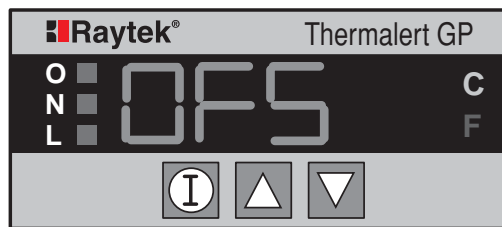

Figure 19: Offset Indicator Display
2. Press the  button several times until the Offset indicator displays (Figure 19).